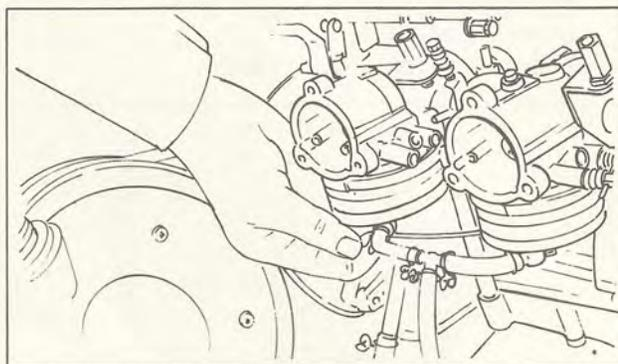

Fig. 2-2
4. Remove the six bolts from the carburetor using the 10-mm. open-end wrench, and remove the silencer-plate. Next, remove the tachometer cable from the oil pump. (Fig. 2-2, 2-3)